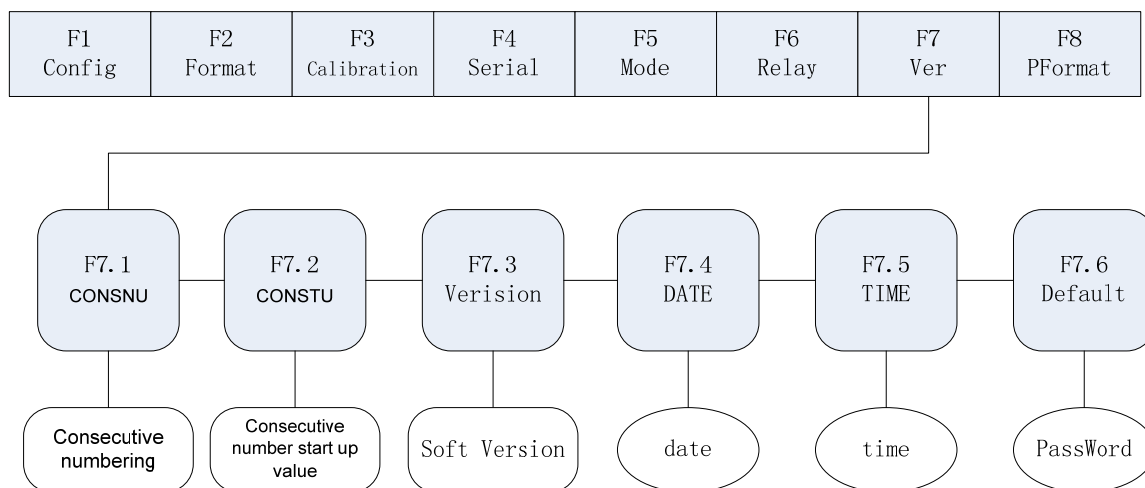

Fig. 7-2 Consecutive Numbering Setup
- (1) Set indicator to Configuration mode. Display shows "F1".
- (2) Press until display shows "F7" (see Fig. 7-2). Press to go to F7.1 Menu. Display shows "F7.1"
- (1) Follow points (1) and (2) to enter into F7 Menu.
- (2) When display shows "F7.1", press until display shows "F7.4" (see Fig. 7-2). Press to enter into Date setup mode and display shows "DD.MM.YY". Follow Fig. 4-2 to set to the current date.
- (3) When date setup is complete, press to return to F7.5 Menu. Display shows "F7.5".